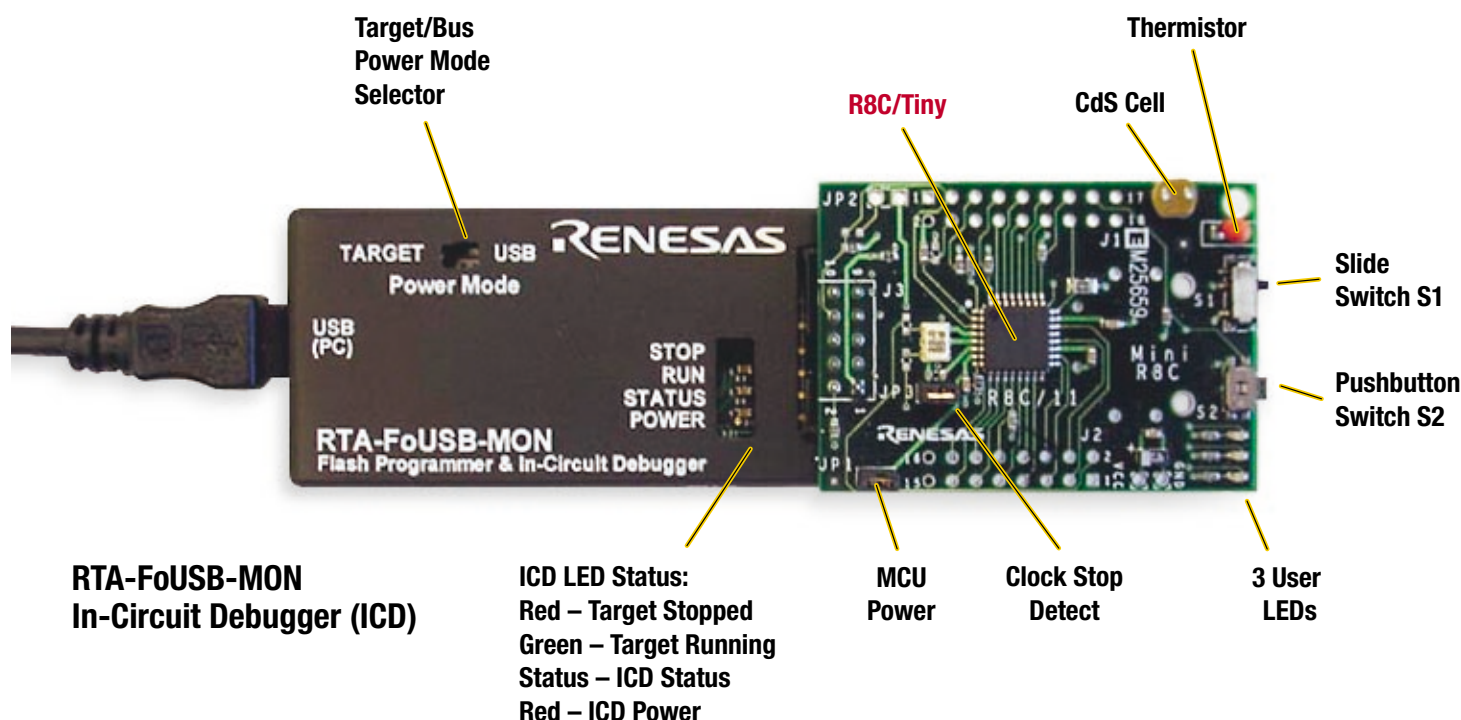

Figure 1. R8C/Tiny SKP
As there is no connector polarity on the Mini R8C board, please verify the position of the Mini R8C and RTA-FoUSB-MON as shown in Figure 1.
- b) Plug the mini R8C board into the TARGET connector of the RTA-FoUSB-MON as shown in Figure 1. The demo should run!